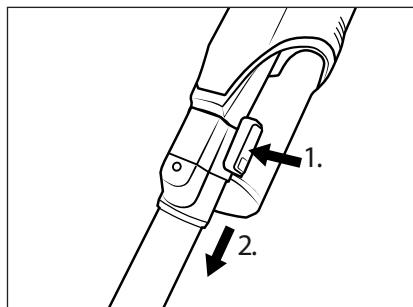

Fig. 11
- ◆ To remove the suction pipe 23 from the appliance, hold down the suction pipe release button 24 and pull the suction pipe 23 off the suction opening of the appliance (see Fig. 11).